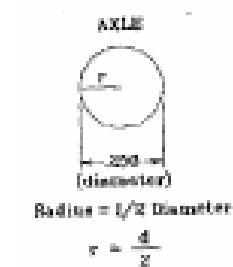

Fig. 6
27. What is the radius of the axle? _____ (See Fig.6)